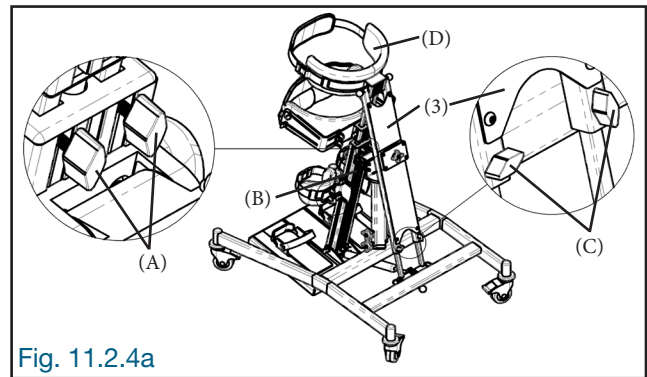

Fig. 11.2.4a
Slightly unscrew the locking knobs (A) at the back of the frame (B) as well as the locking knobs (C) at the bottom of the stabilizer (3), adjust the height of the thoracic rest (D), then firmly tighten the four previously unscrewed locking knobs (A) and (C) (Fig. 11.2.4a).